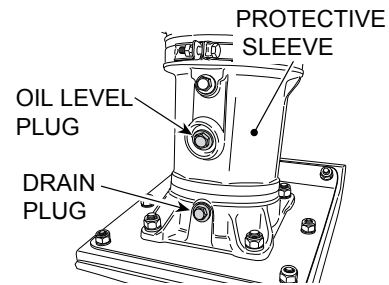

Figure 18. Oil Replacement
- Remove the oil drain plug on foot housing (Figure 18) and drain the oil. Refill with approximately 0.8 qt. (0.75 liter) of 10W-30 SE, SF or higher grade motor oil. Check oil gauge on the protective sleeve from the right side if oil is at specified level.